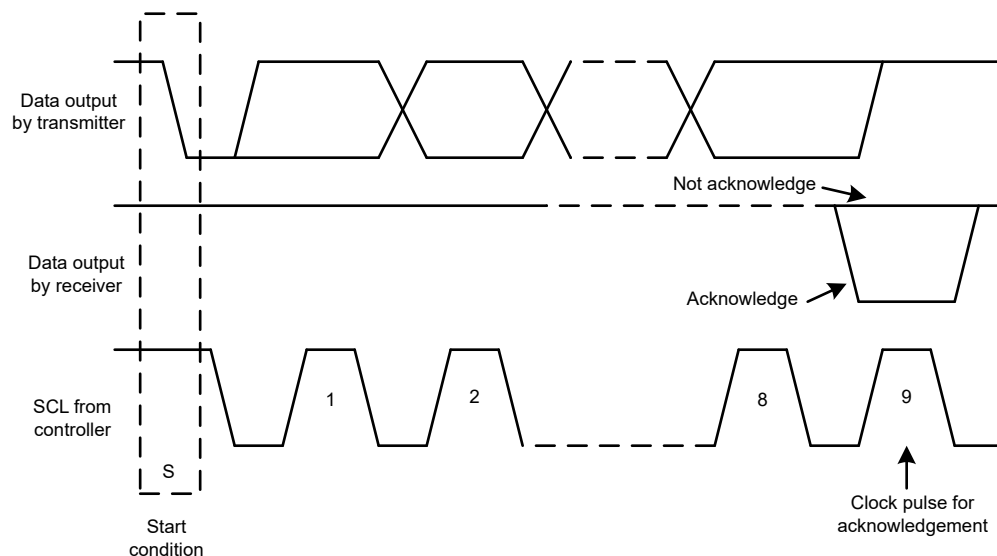
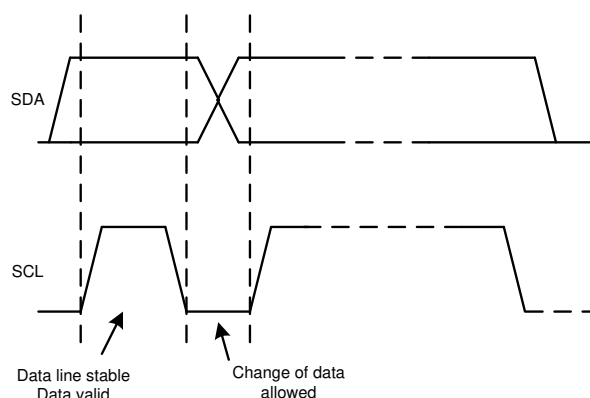

图 7-20. Acknowledge and Not Acknowledge on the I²C Bus
图 7-22. Bit Transfer on the I²C Bus
Other than specific timing signals, the I²C interface works with serial bytes. At the end of each byte, a ninth clock cycle generates and detects an acknowledge signal. An acknowledge is when the SDA line is pulled low during the high period of the ninth clock cycle. 图 7-20 depicts a not-acknowledge, when the SDA line is left high during the high period of the ninth clock cycle.
2. The controller then generates the SCL pulses, and transmits the 7-bit address and the read/write direction bit ($\overline{R/W}$) on the SDA line. During all transmissions, the controller makes sure that data are valid. 图 7-22 shows that a valid data condition requires the SDA line to be stable during the entire high period of the clock pulse. All devices recognize the address sent by the controller and compare the address to the respective internal fixed address. Only the target device with a matching address generates an acknowledge by pulling the SDA line low during the entire high period of the 9th SCL cycle (see also 图 7-20). When the controller detects this acknowledge, the communication link with a target has been established.